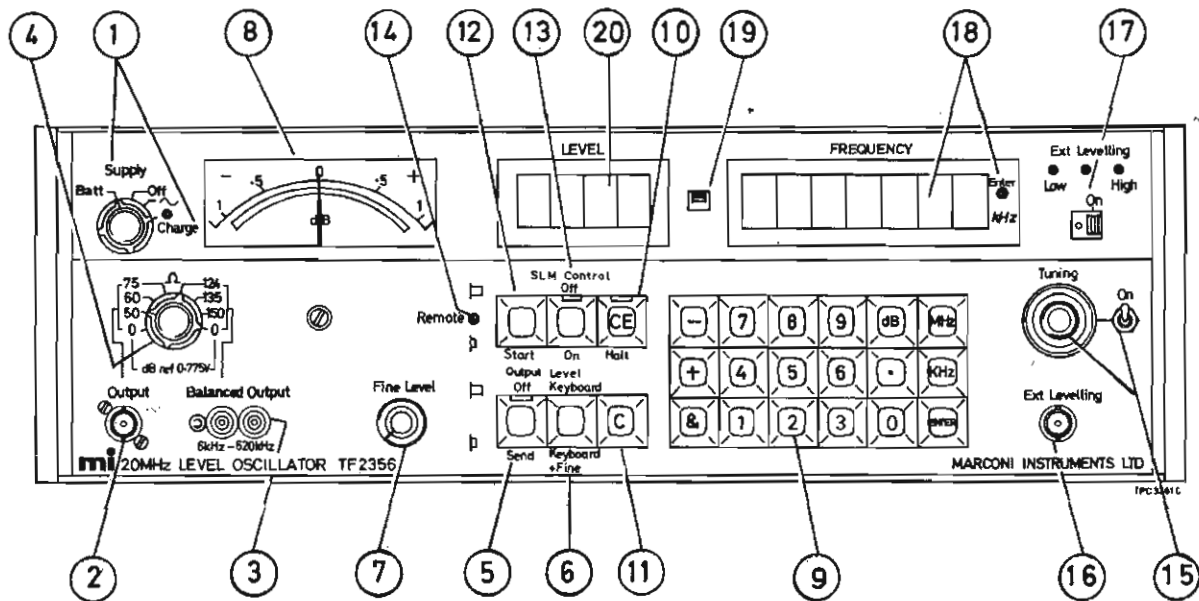

Fig. 1 TF 2356 - Front panel controls and connectors
11. Front panel controls and connectors shown in Fig. 1 are as follows:-